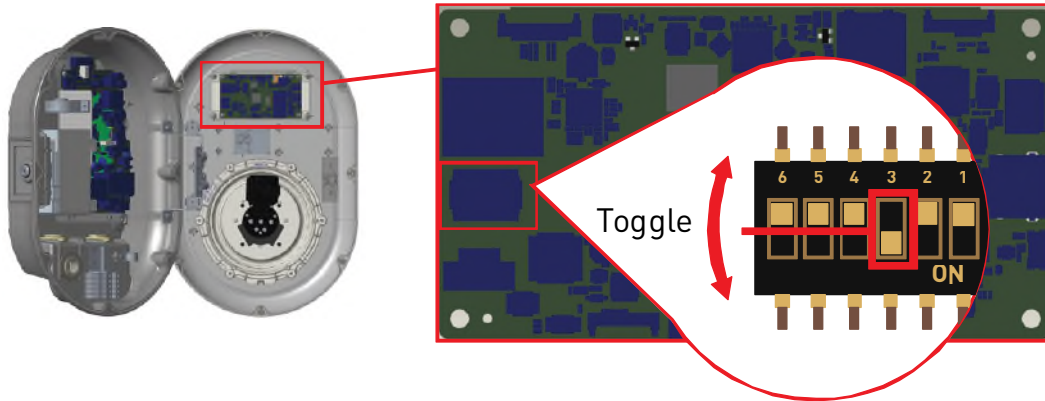

Figure.25
- If you want to enable the configuration web interface, third position of dipswitch should be in "OFF" position as shown in figure 25.